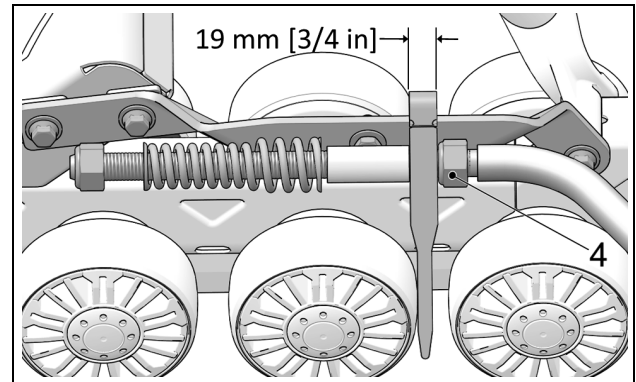

Figure 12
- Set nut (4) to obtain a distance of 19 mm [3/4 in] between nut and stabilizing arm guide as shown on Figure 12.